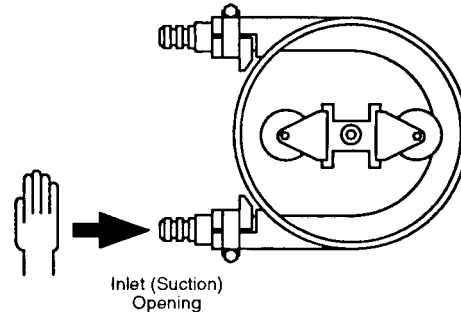

Fig. 12
4. Start the pump. Place the palm of your hand over the suction opening, and check whether the roller is compressing the hose enough to create a vacuum. See Fig. 12.